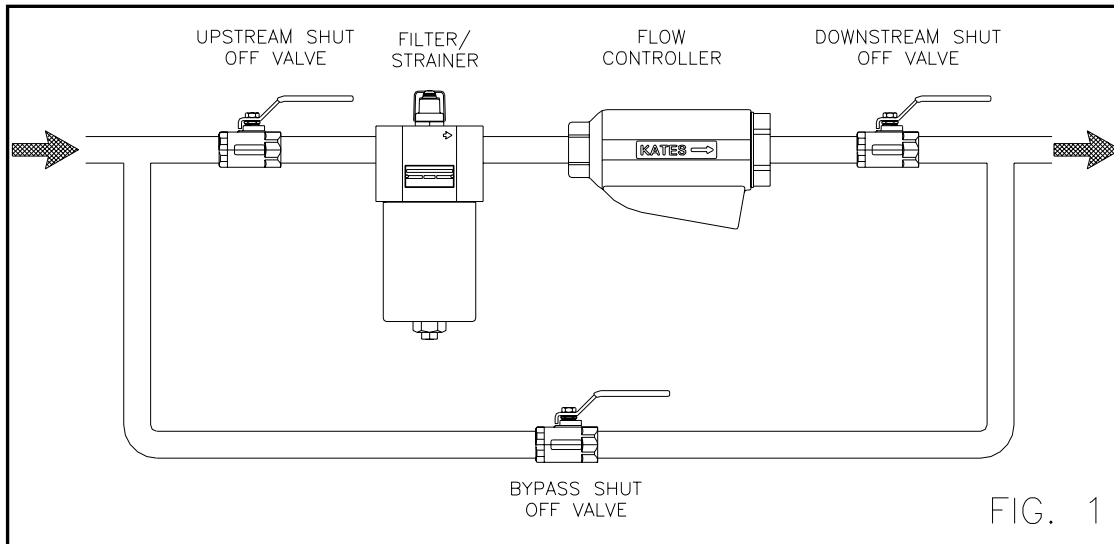

FIG. 1
2. Upstream and downstream shutoff valves and a bypass valve should be installed (see Fig. 1) so that the controller may be opened for inspection and cleaning without requiring complete system shutdown.